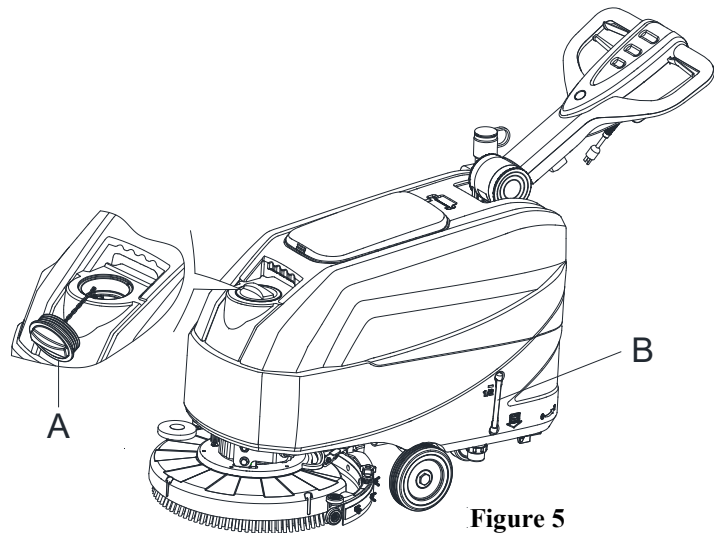

Figure 5
1. Open the water inlet cover (A, Figure 5).
3. Do not overfill the tank, refer to water level indicator (B, Figure 5) for the water volume.